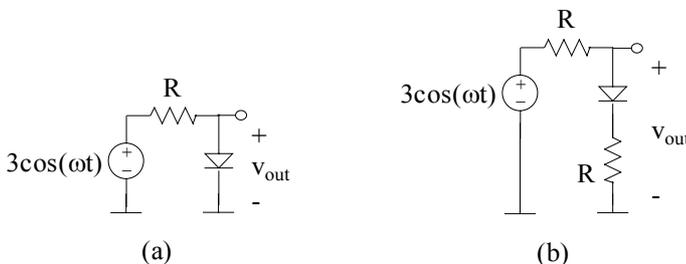

Figure 6.19 Circuits for problem 3
3. Determine and sketch the waveform at the output for the circuits given in Figure 6.19. Assume that the diode is ideal.